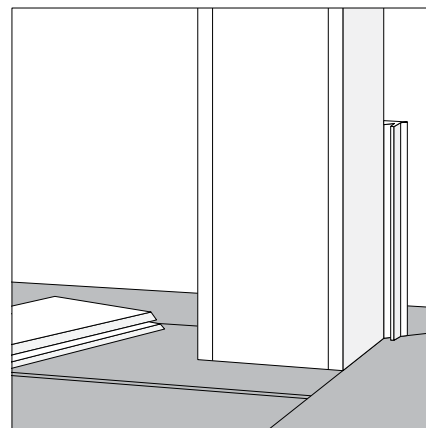

Fig. 4b
- Position the first piece against the KLEERWrap Post Wrap (**Fig. 4b**).